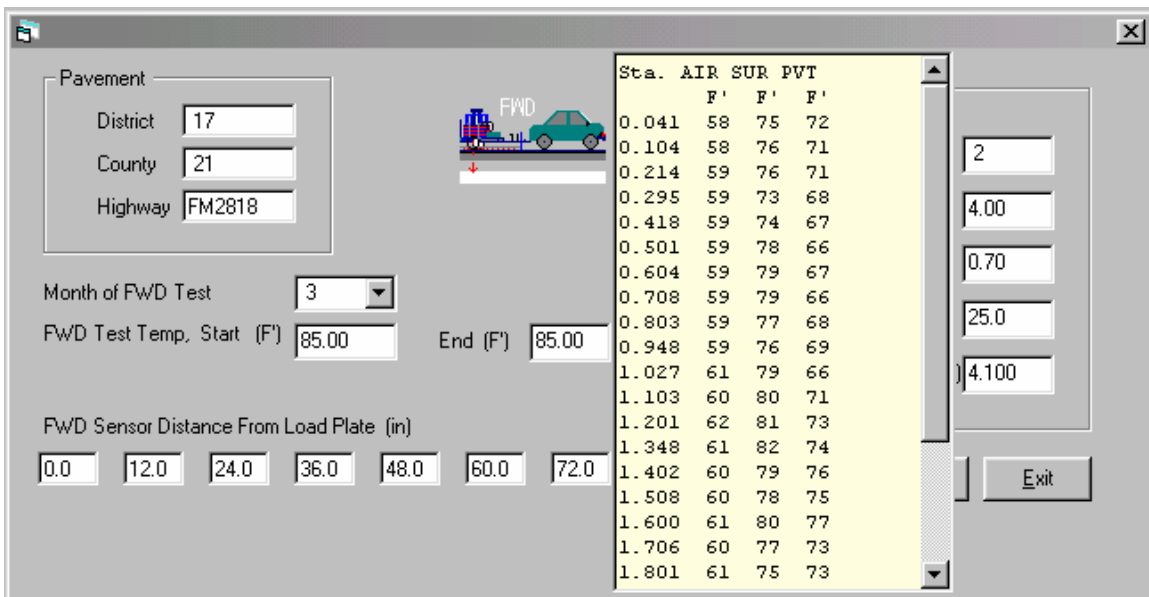

Figure 12. View the FWD Measured Temperature.
Where possible the program will extract the required data from the FWD file. But the user must input reasonable values for the pavement survey information. The average rut depth (in inches) and existing percentage of alligator cracking can be taken from existing PMIS information or from the FWD operator's field observations of pavement condition. By clicking the label of "FWD Test Temp. Start(FN)" or "End (FN)", the measured air, surface, and pavement temperatures (shown in Figure 12) are displayed for reference propose. This information is extracted from the raw FWD file. Clicking the temperature table, will cause this table to disappear.